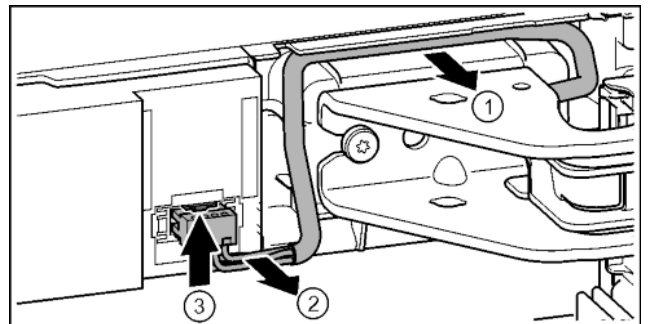

Fig. 20
- ▶ Carefully remove the cable over the bearing bracket from the guide. Fig. 20 (1)
- ▶ Carefully remove the cable strands from the channel. Fig. 20 (2)
- ▶ Press the lug upwards and carefully remove the connector. Fig. 20 (3)